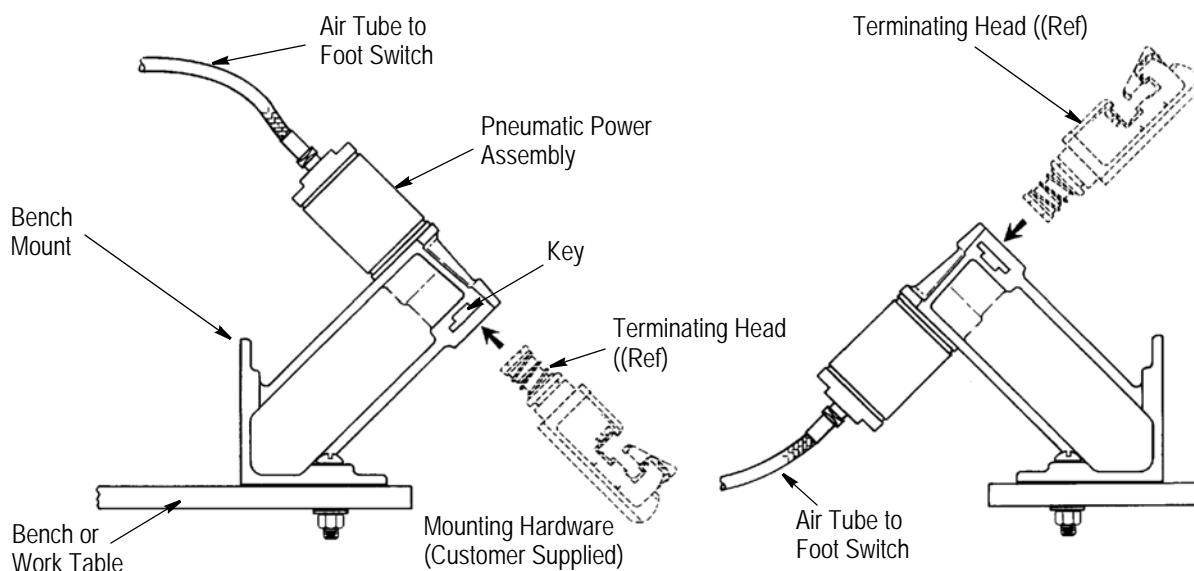
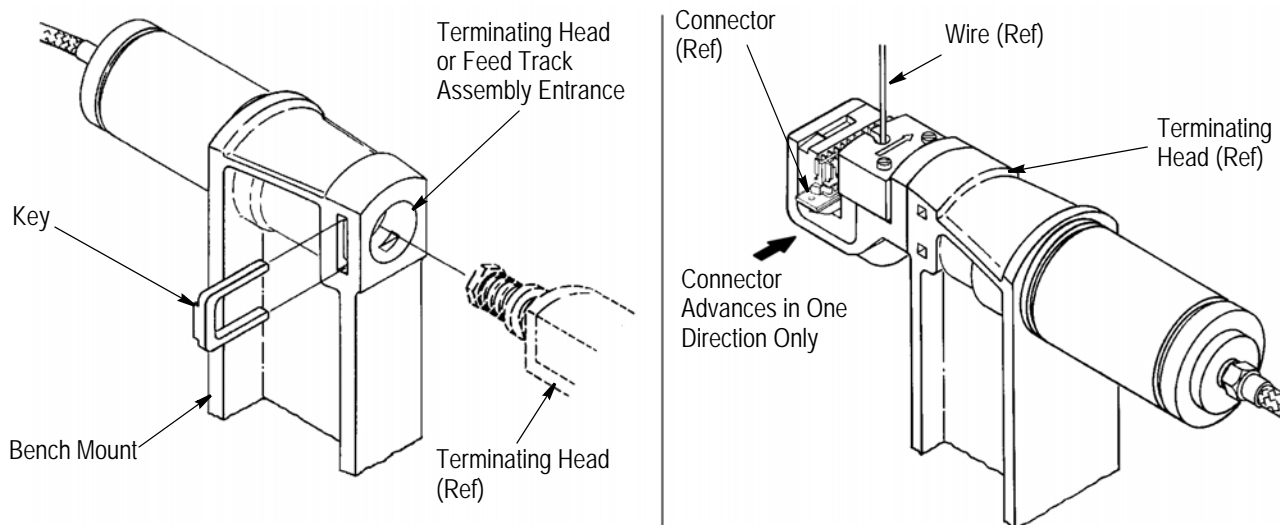

Figure 2
Figure 4
3. DESCRIPTION (see Figure 2)
The bench mount is designed to be mounted in either of the two positions shown in Figure 2. Orientation of the bench mount depends on operator preference and the desired eject direction of terminated connector (refer to Figure 4). Install the bench mount as follows:
3. Insert the terminating head or feed track assembly into the head entrance of the power assembly body until it bottoms. See Figure 4.
from air supply, remove the key, and pull the terminating head or feed track assembly out of the power assembly. Refer to Figure 4.